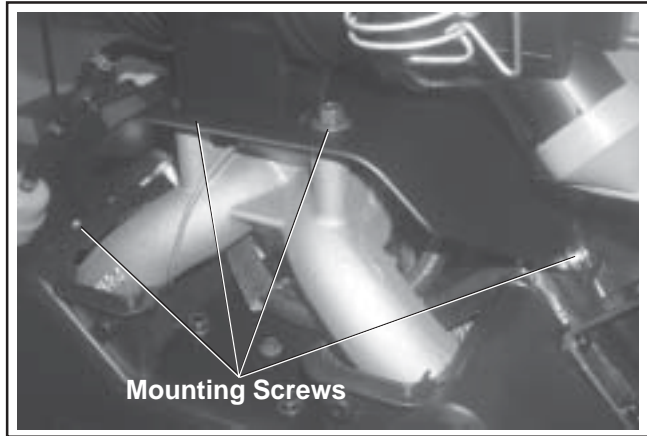

Figure 9-13. Air Cleaner Bracket Mounting Screws (Two-Barrel Model Pictured).
3. Remove the screws securing the main support bracket for air cleaner to the valve covers. On **two-barrel carburetor models**, remove the two mounting screws into the top of intake manifold. Unhook the choke return spring if equipped. Do not lose any of the hardware. See Figure 9-13.